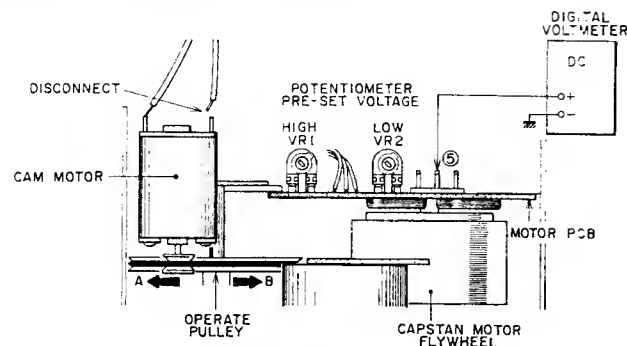
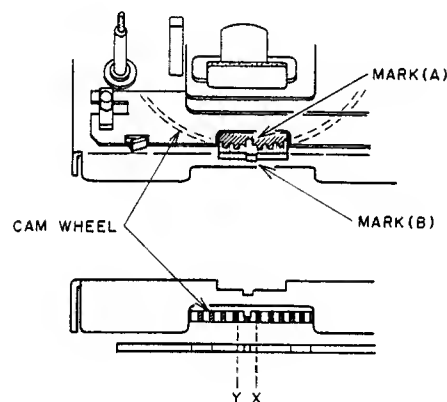

Fig. 4-4.
Fig. 4-5.
4-4 POTENTIOMETER PRESET VOLTAGE ADJUSTMENT (Refer to fig 4-4 to 4-5)
- Connect the digital voltmeter as shown in fig. 4-4.
- With power ON, adjust VR2 so that the voltage reading will be 1.15V (DC).
- With power ON, adjust VR1 so that voltage reading will be 9.08V (DC).
- Adjust VR1 slightly so that the center of Marker (A) coincides with the center of Marker (B) (should be within the range between X and Y) at STOP Mode as shown in Fig. 4-5. (The marker (STOP) on the CAM WHEEL can be seen clearly by lighting it from the back.)